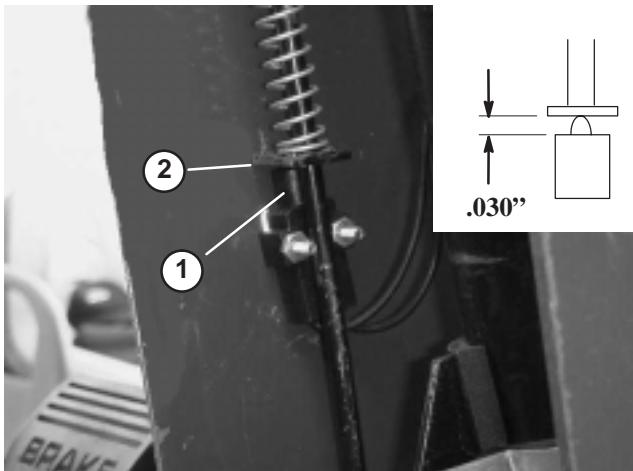

Figure 49
3. Slide cover up steering shaft to expose parking brake switch (Fig. 49).
5. Align parking brake rod paddle with switch plunger (Fig. 49)
6. Press down on parking brake rod and push up on switch until compressed length of switch plunger is .030" (Fig. 49, inset) . This the distance between the brake rod paddle and switch plunger housing.